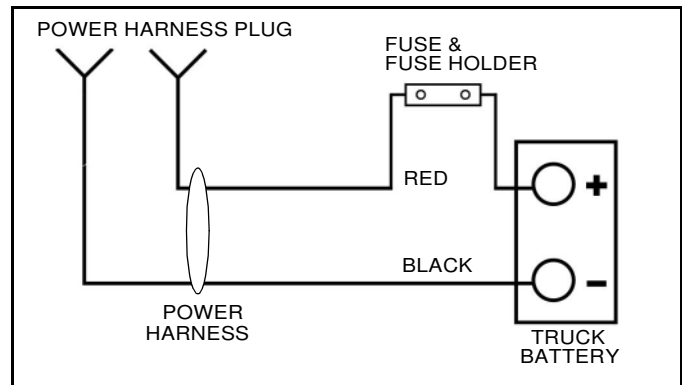

Figure 1-10
4. Mount the fuse holder near the battery using (2) #10 x 1" self-tapping screws.
5. Take the cover off of the fuse holder. Place the end of the 6 in. long power wire with the small ring terminal on one stud. (See Figure 1-10).